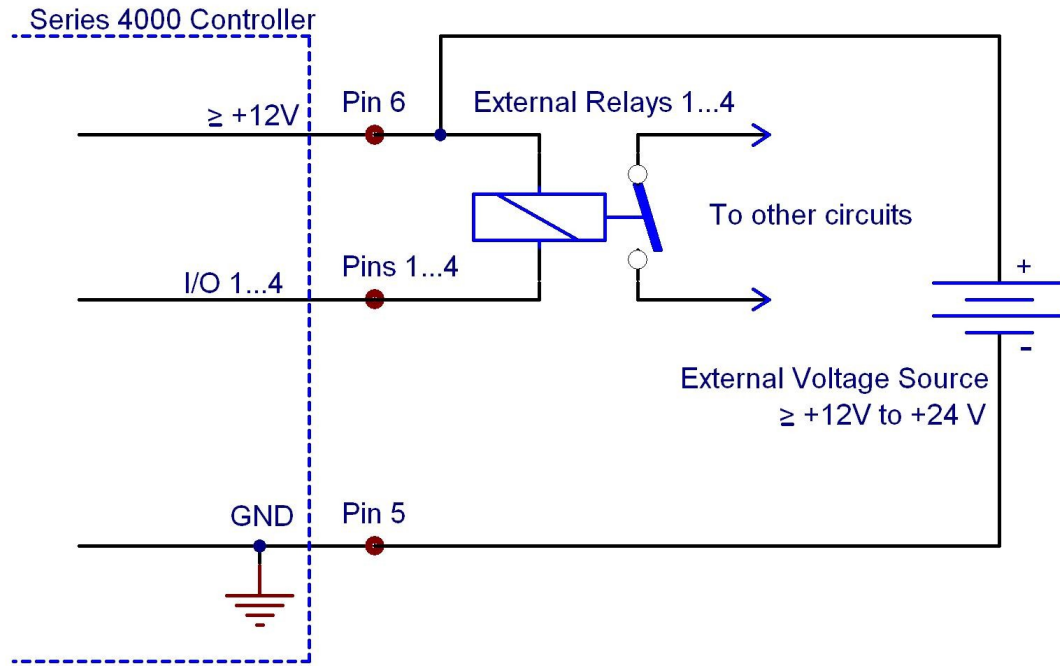

Figure 62
In Figure 62, the output drives a relay in sink operation using a higher external voltage supply ($\geq +12\text{V}$ to $+24\text{V}$). To energize the external relay, the output level of the digital I/O line must be set LOW. The maximum sink current is 400 mA.
2. The fuse holder (R14, see Figure 62) is located below the 3-terminal power connector of the mains jack (R10). Release the fuse holder by bending its two plastic retainers with the aid of two small screwdrivers. The retainers must be pressed towards the center of the fuse holder.